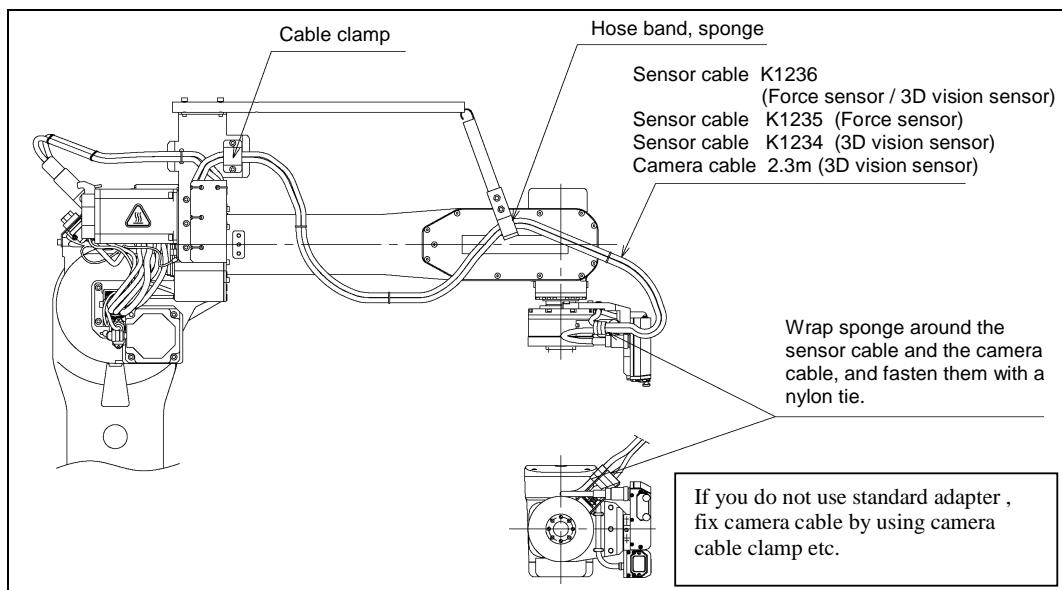

Fig. 11.2 Replacing the sensor cable and the camera cable
For the sensor cable kit, a sponge is attached for protection of the cable from clamping band. When assembling, perform the correct clamping according to Fig.11.2.
- 2 Adjust the interval between the cable and hose tie by wrapping sponge around the cable at the hose mounting portion as shown in Fig. 11.2.
- 3 Wrap sponge and tie nylon band around the Sensor side connector positions for each cable as shown in Fig. 11.2.